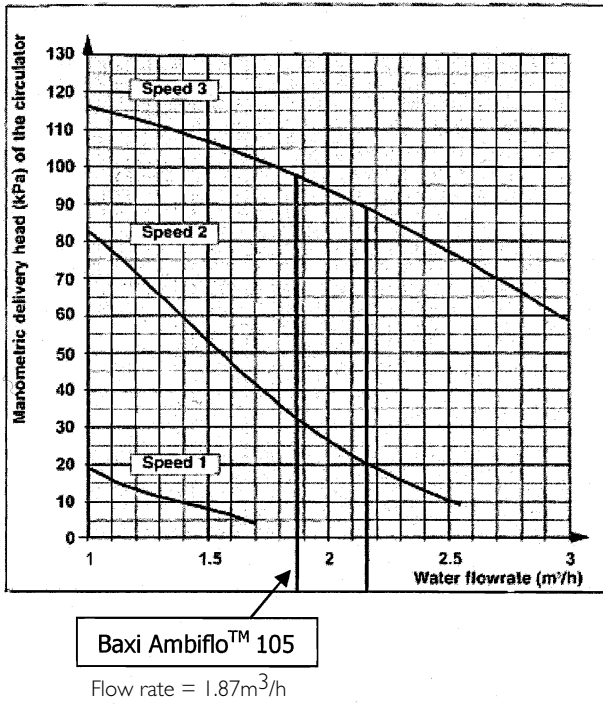

Fig. 11 Pump curves
9. Calculate the difference between the two readings and use the graph (Fig 11) to determine whether the pressure difference and flow rate are correct for the appropriate Ambiflo™ model based on the pump speed setting, i.e. 1, 2 or 3. **NOTE:** Remove the 4 top screws to gain access to the pump speed selector.